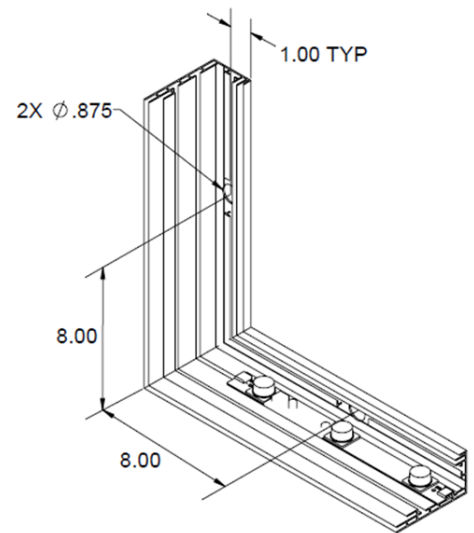

Figure 2
See Figure 2.
**See Figure 2 and 3.**